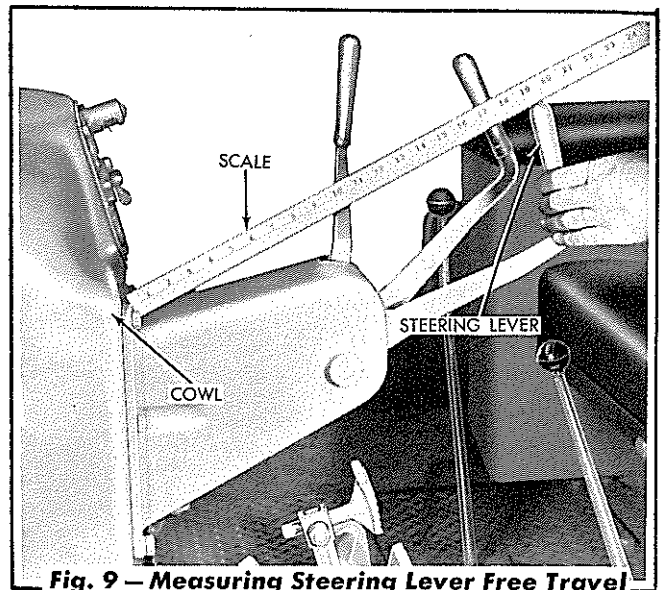

Fig. 9 — Measuring Steering Lever Free Travel
1. Place one end of a ruler or scale against the cowl so that it projects horizontally past the top of the steering lever (refer to Fig. 9).